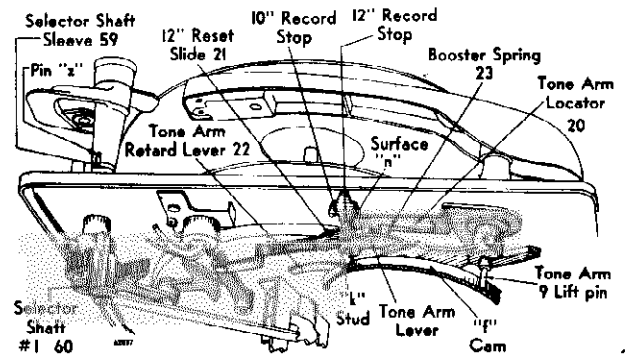

FIG. 8. CUTAWAY—BOTTOM VIEW
C. ROTATION OF DRIVE GEAR (8)—results in the following cam actions:
1. Vertical cam "e" moves the tone arm lift pin (9) and raises the tone arm.
2. Cam "j" (bottom surface of drive gear) actuates the drive link (10) that induces the quarter turn by which the selector arms release a record.
The motion is transmitted from the gear to the selector arms through the following parts: connecting rod (11), drive crank (12), selector shaft sleeve (59), pin "z," selector shaft No. 1 (60), post gear No. 1 (13), segment No. 1 (14), segment tie plate (15), segment No. 2 (16), post gear No. 2 (17). (The sleeve and pin are shown in figure 8)
3. Surface "h" on the locked tone arm lever (11) resets the trip by latching the clutch engagement lever (6) to the trip lever (5).
4. Cam surface "g" moves the tone arm latch lever assembly (18) so as to unlatch the tone arm lever (19) at point "m." Thereafter the stud "k" on the tone arm lever follows the receding cam "f," shown in Figure 8.
5. Spring pressure from tone arm locator (20) moves the tone arm lever (19) and tone arm in toward the record. Selector arm settings de-